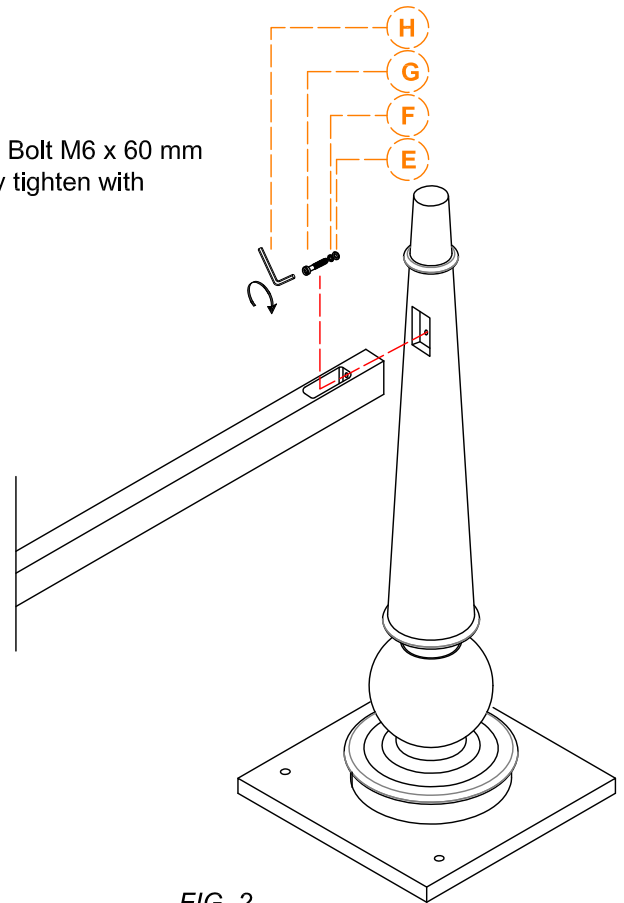

FIG. 2
3. Attach the Stretcher (5) with the Center Legs (4) using the JCBC Bolt M6 x 60 mm (G) with Flat Washer M6 (E) and Spring Washer M6 (F) Securely tighten with Allen Key 4 (H) as provided (FIG.2);